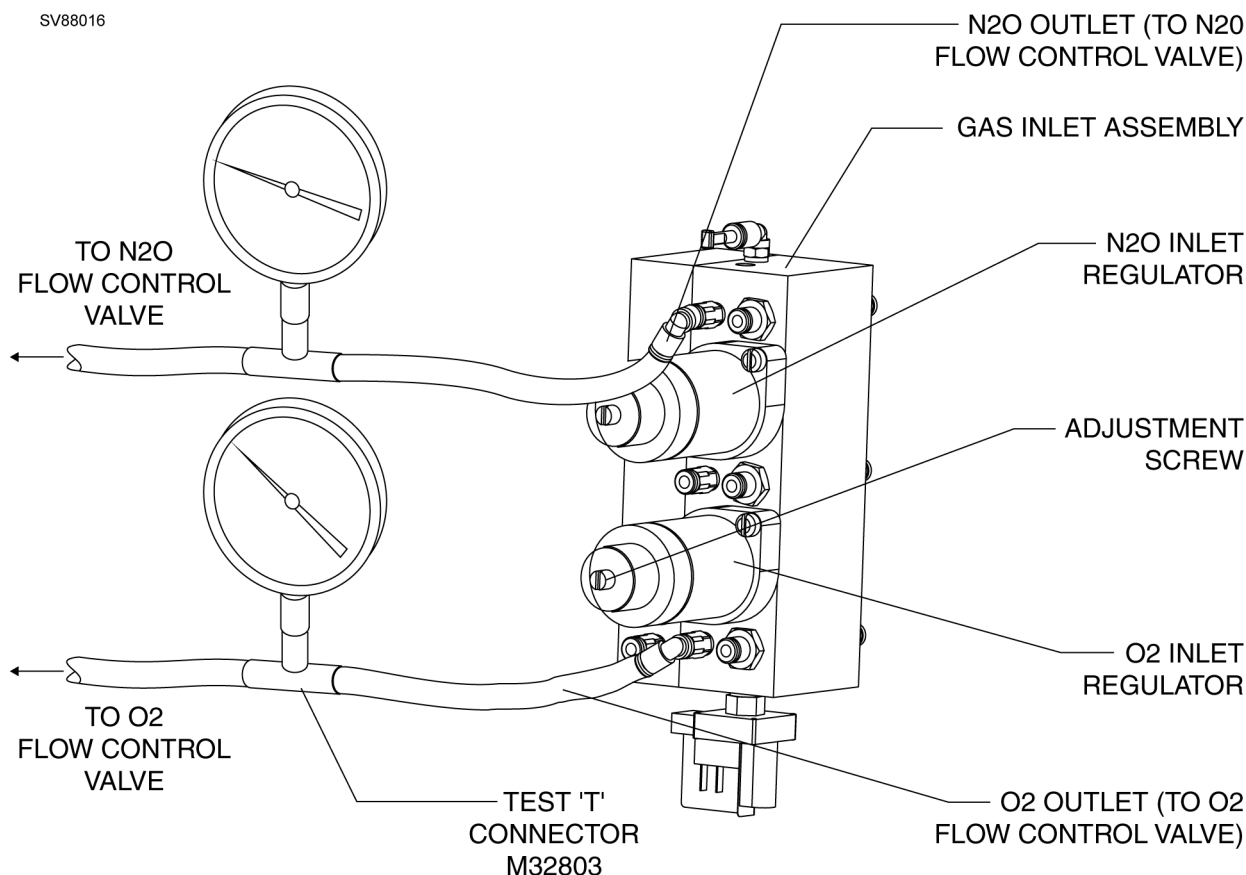

Figure 2 Setting Inlet Regulators
4. Remove the pneumatic hose from the O₂ outlet of the gas inlet block and interconnect a digital manometer as shown in Figure 2.
13. Interconnect a digital manometer between the N₂O outlet connector and the hose removed in the previous step. See Figure 2.